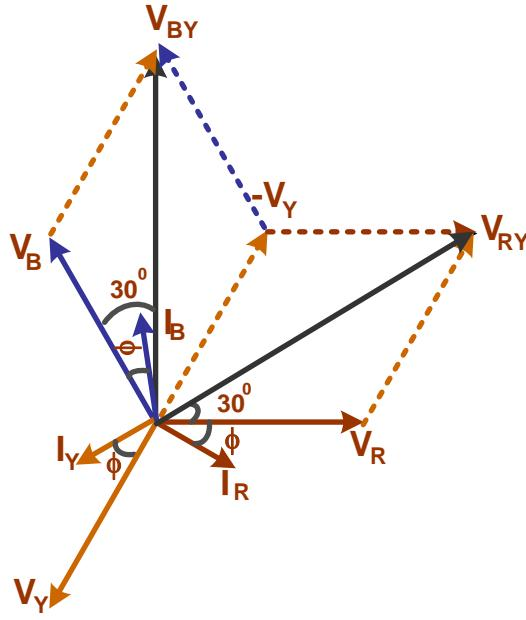

Figure 2.54 Phasor Diagram of Power Measurement by Two-Watt Meter in Three Phase Star Connection
- The load is considered as an inductive load and thus, the phasor diagram of the inductive load is drawn below in Fig. 2.54.
- From the Fig. 2.54, it is clear that for lagging power factor  $\cos \phi$ , the wattmeter readings are